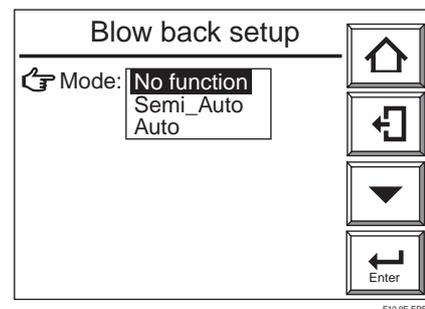

Figure 10.8 Blow back Setup Display
- (1) Select the Setup key from the basic panel display to display the Execution/Setup display. Then select Maintenance from the Execution/Setup display.
- (2) Select the Blow back setup from the Maintenance display and select Mode. The mode selection display as shown in Figure 10.8 then appears.